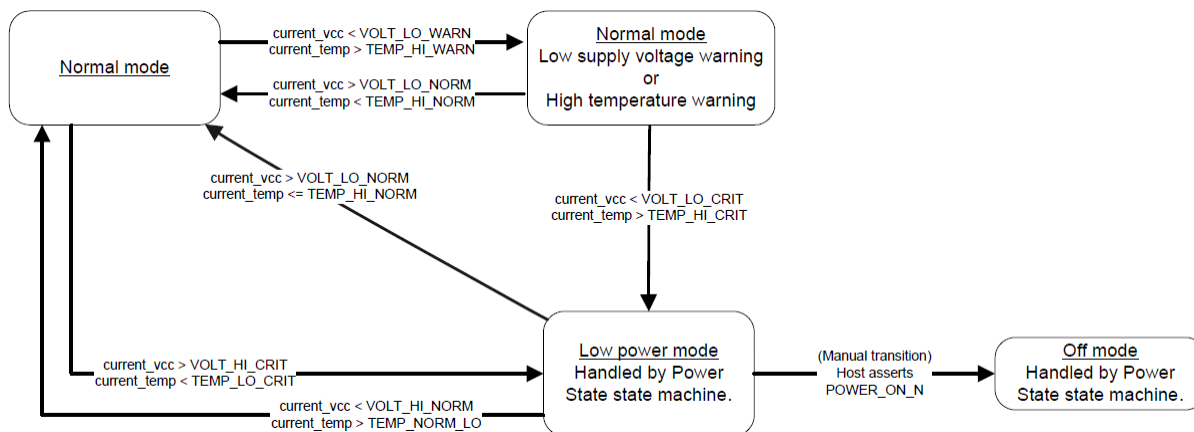

Figure 30. Automatic ("Triggered") Power State Transitions
- Automatically, when critical supply voltage or module temperature trigger levels are encountered. See Figure 30 for details.